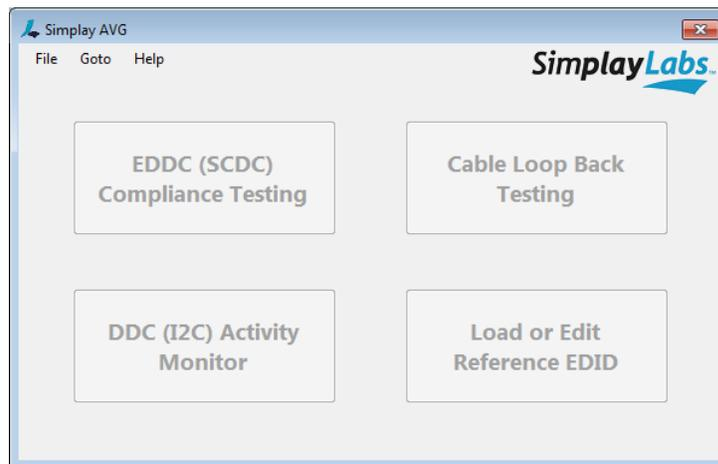
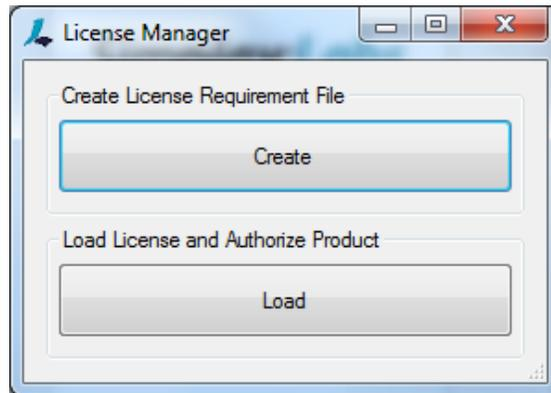

Figure 3.8. AVG Software Main Window on Test Computer
Figure 3.11. License Manager Dialog
1. Make sure the SL-881 is powered on and is connected to your test computer. Open the SL-881 Application shortcut from your test computer desktop (Figure 3.7). You get the main window of the AVG software (Figure 3.8).
- From the AVG software main window (Figure 3.8), choose Help → License. The License Manager dialog appears (Figure 3.11).
3. Go back to the AVG software main window (Figure 3.8). Select File → Open Device → Connect Device.
- The License Manager dialog appears (Figure 3.11). Click Load to load the license file (\*.lic).